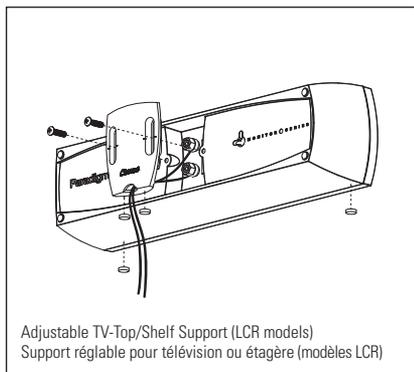

Fig. 8
If you are placing a Cinema™ C or LCR (horizontal configuration) speaker on top of a TV or shelf, you must use the Adjustable TV-Top/Shelf Support included (see Fig. 8). Installation is as follows:
3. Apply self-adhesive rubber pads (*included*) as shown in Fig. 8.